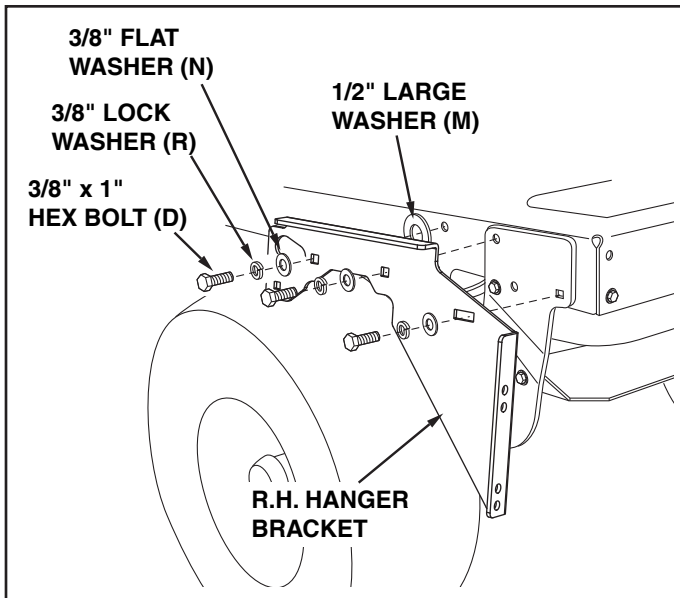

FIGURE 6
STEP 2: (SEE FIGURE 6)
- Attach the R.H. hanger bracket to the two front empty holes on the right side of the tractor frame using two new 3/8" x 1" hex bolts (D), 3/8" lock washers (R), and 3/8" flat washers (N) as shown. For the rear hole, use a 3/8" x 1" hex bolt (D), 3/8" lock washer (R) and 3/8" flat washer (N) with a large 1/2" washer (M) placed between the hanger bracket and the tractor frame. **Tighten.** Repeat for the left side.
- Assemble the two angle lock bars together as shown in figure 6, so that all holes are aligned. Use one 3/8" x 1-1/4" carriage bolt (E) and one 3/8" nylock nut (L). Be sure to insert bolt from side indicated. **Do not tighten at this time.**